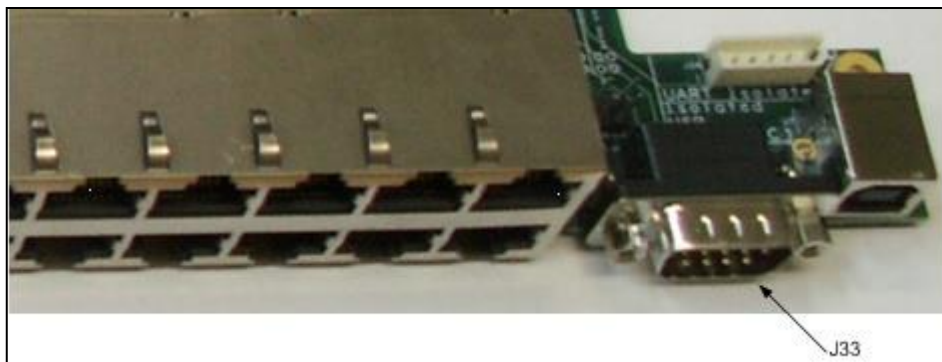

Figure 16: Isolated RS232
7. Isolated RS232 (see Figure 16)